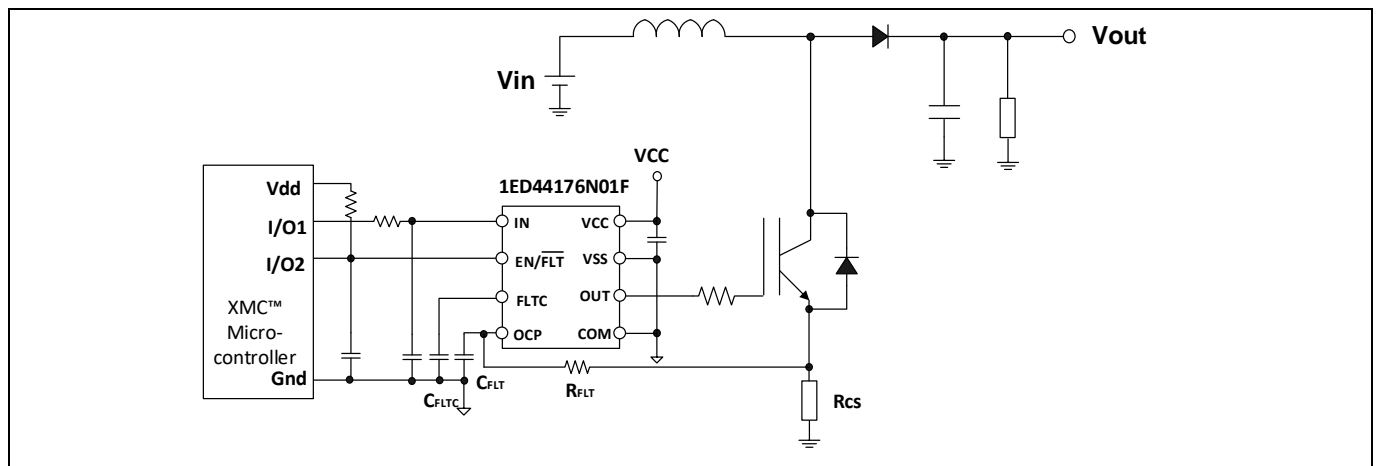

Figure 5 Application circuit example of active power factor correction (APFC) with R_{CS} for OCP
- The R_{CS} should be connected between the pin (emitter of low-side IGBT or source of low-side MOSFET) and the power ground to detect short-circuit current (refer to Figure 5). An RC filter needs to be connected between the shunt resistor and the OCP pin if the internal blanking time is not enough to eliminate the noise.
Figure 5 shows a typical application circuit of 1ED44176N01F for the interface schematic with control signals connected directly to a XMC™ μ C.